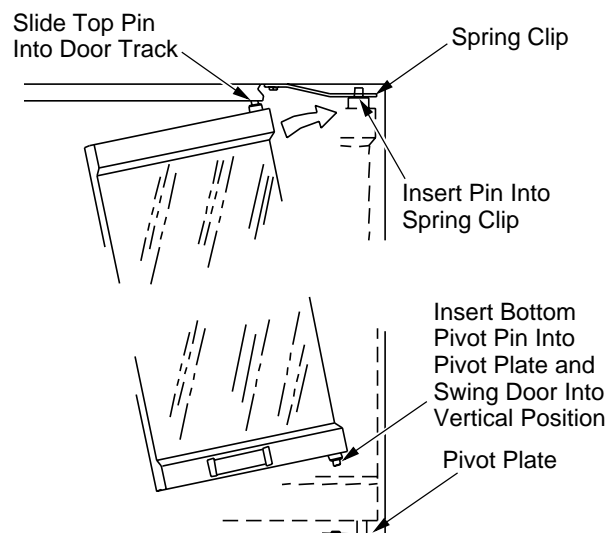

Figure 30 - Installing Optional Glass Door
2. With the handle facing the center of the firebox opening, insert the lower pivot pin on the glass door panel into the hole in pivot plate on the bottom edge of the fireplace opening (see Figure 30).
4. Tilt the door assembly fully vertical until the outer pivot pin snaps into the mounting hole in the upper spring clip (see Figure 30).